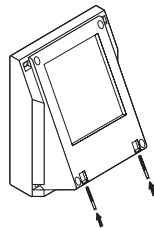

Fig. 4
- Drill holes ( $\varnothing$  2 mm) for the screws in the housing (Fig. 4)